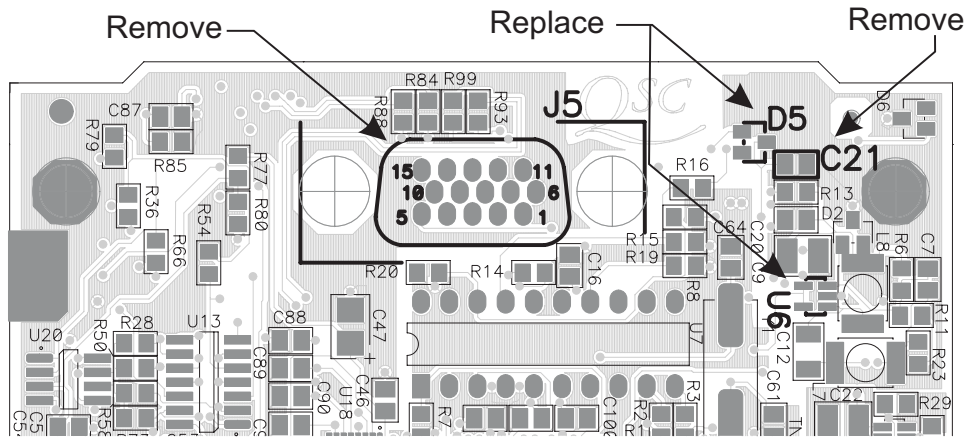
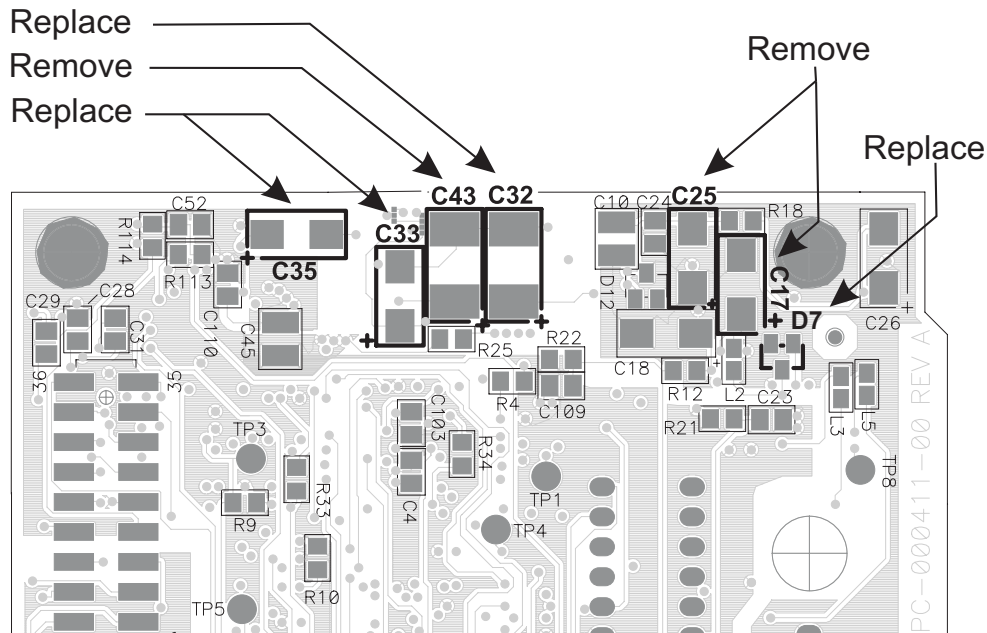

Figure 1. Top Layer.
Figure 2. Bottom Layer.
5. With your soldering iron and tweezers, carefully remove U6, D5, D7, C32, C33 and C35. If you find the parts difficult to remove, try adding new solder to the pads for better heat flow. Use the tweezers to delicately lift the part while touching the pad with the soldering iron. Refer to Figure 1 and Figure 2 for the location of the parts to be removed.
8. With your soldering iron, carefully remove C17, C21, C25 and C43. Refer to figure 1 and figure 2 for the locations of these capacitors. There will be no parts soldered in the place of these capacitors.
10. With your desoldering tool, remove J5. Refer to Figure 1 for the location of this HD15 connector.